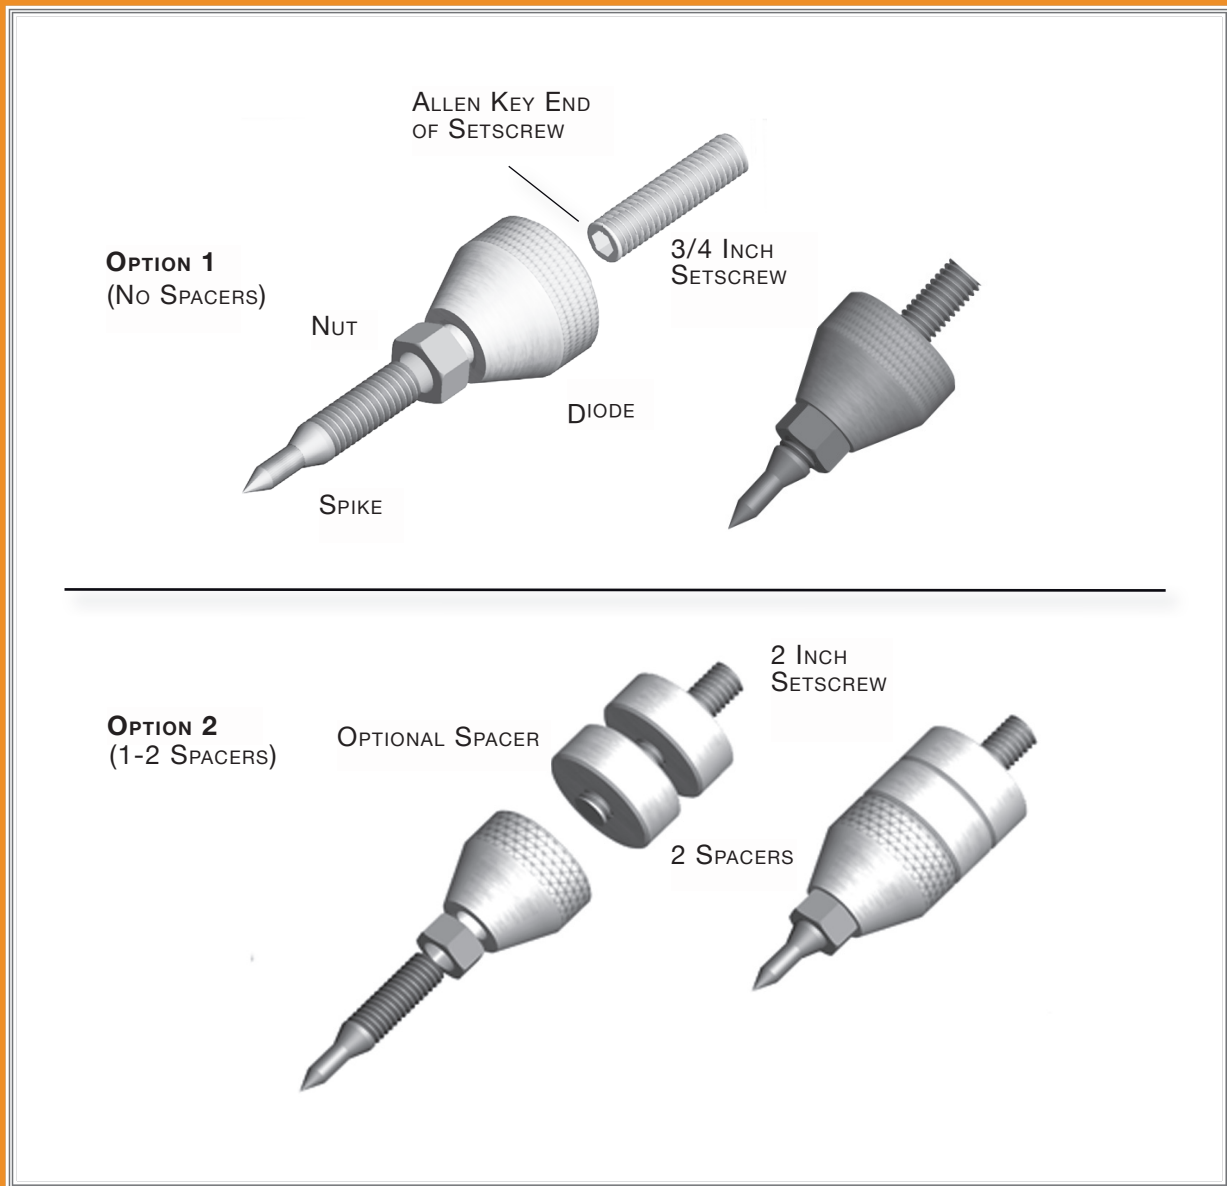
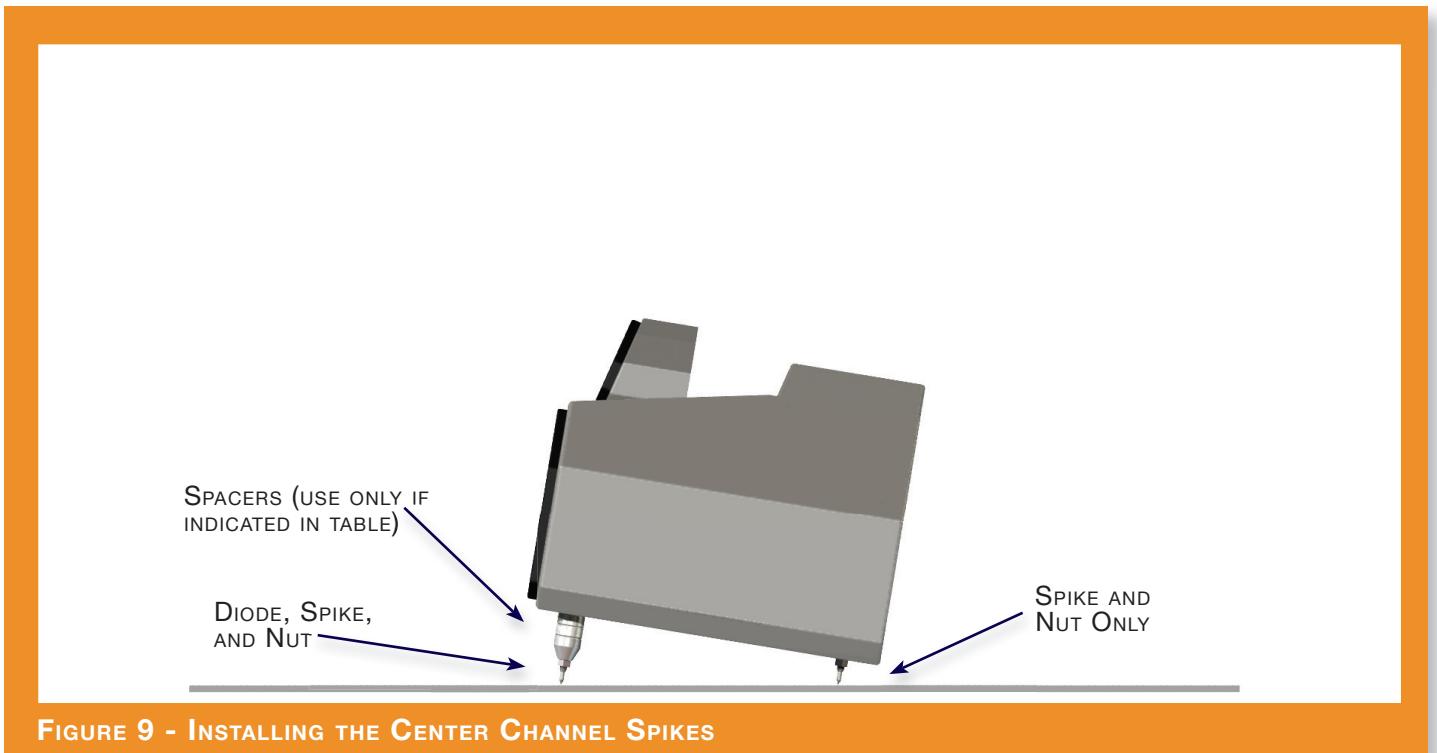

FIGURE 7 - CENTER CHANNEL SPIKES ASSEMBLY DIAGRAM
FIGURE 9 - INSTALLING THE CENTER CHANNEL SPIKES
(see Figure 7) . Make sure the Allen key end is accessible.
The floor mounted Center channel must be rotated up toward the listening position. This is done by using a taller spike in the front than in the back of the speaker (see Figure 9). The default rotation is set by using a combination of a spike, nut, and a diode. If required, additional rotation can be achieved by using the provided 1/2" spacers between the diode and the bottom of the cabinet (see Figure 7). The amount of rotation depends on your listening position.
7. Assemble the front spikes with the listed diode/spacer combination in Table 1 (see also Figure 7).
8. Install the spikes as shown in Figure 9 below.